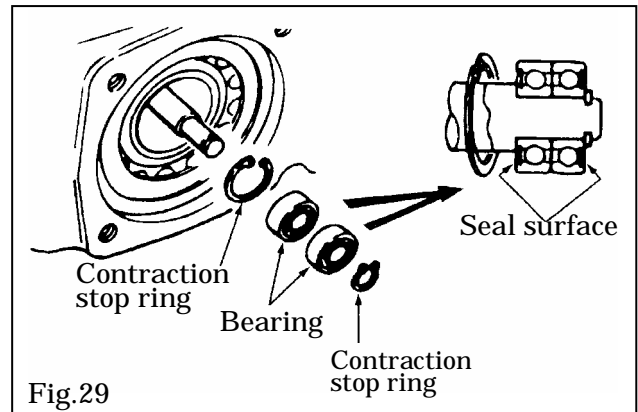

Fig.29
1. Have the expansion stop ring installed over the piston rod and insert two bearings before retaining it with contraction stop ring (See Fig.29). (When using single shield type bearing, it should be installed with its seal surface facing outward.)